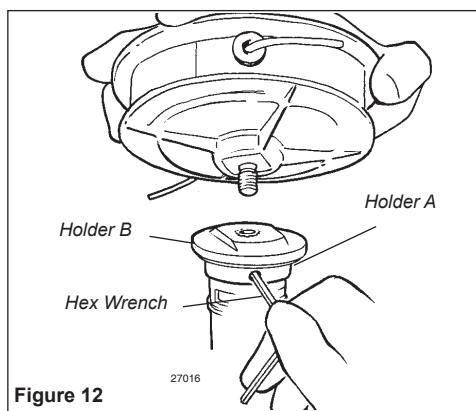

Figure 12
5. Rotate the gearshaft and holders until the hole in Holder A aligns with the matching hole in the gearcase flange, and then lock the holder to the gearcase by inserting the long end of the hex wrench through both holes. See Figure 12.